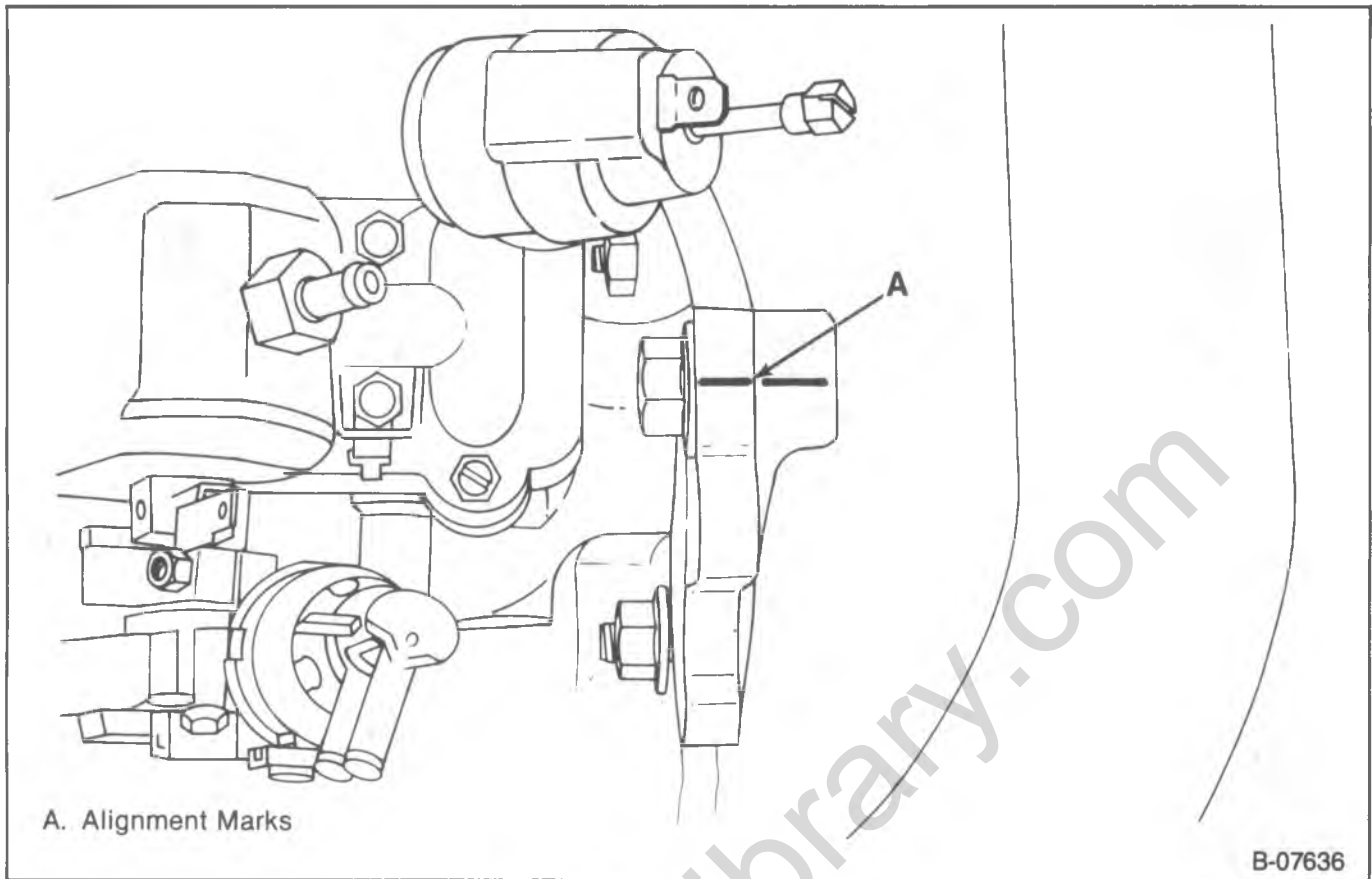

Figure 13—Timing Alignment Marks
- Align the timing marks (figure 13).
3. Nuts (11).
For the engine to be properly timed, the marks on the top of the engine front cover must be aligned with the marks on the injection pump flange (figure 13). The engine must be off when the timing is reset. On Federal models, align the scribe marks. On California models, align the half circles.